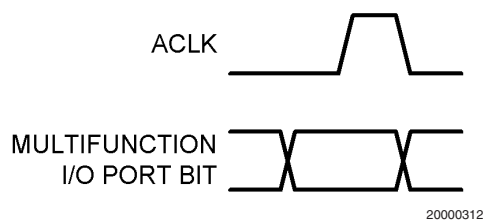

FIGURE 4. I/O Port Data Write Timing
**Caution:** When writing data into the control registers via the multi-function I/O port, **ACLK** must be toggled to register the data as shown in *Figure 4*. It is not necessary to toggle **ACLK** when reading data from the multi-function I/O port.